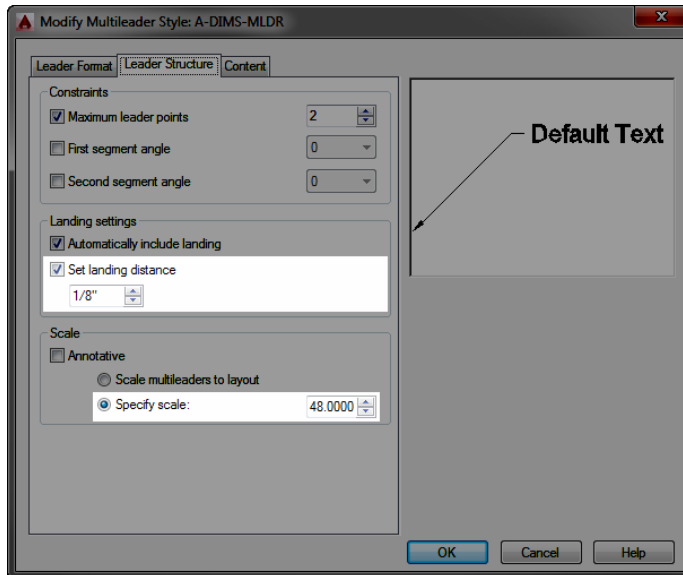

FIGURE 12.37: The Leader Structure tab in the Modify Multileader Style dialog box
6. Make sure the Set Landing Distance option is checked, and then enter 1/8" (3.5) in the text box (see Figure 12.37).
7. In the Scale group, make sure the Specify Scale radio button is selected and then click in the text box and enter 48.4 (50.4), as shown in Figure 12.37.